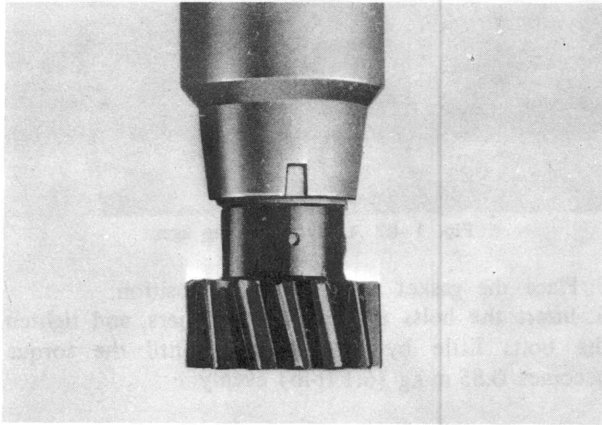

Fig. 1-90 Aligning tally mark
2. Align the tally mark on the distributor housing and driven gear as shown in Fig. 1-90.